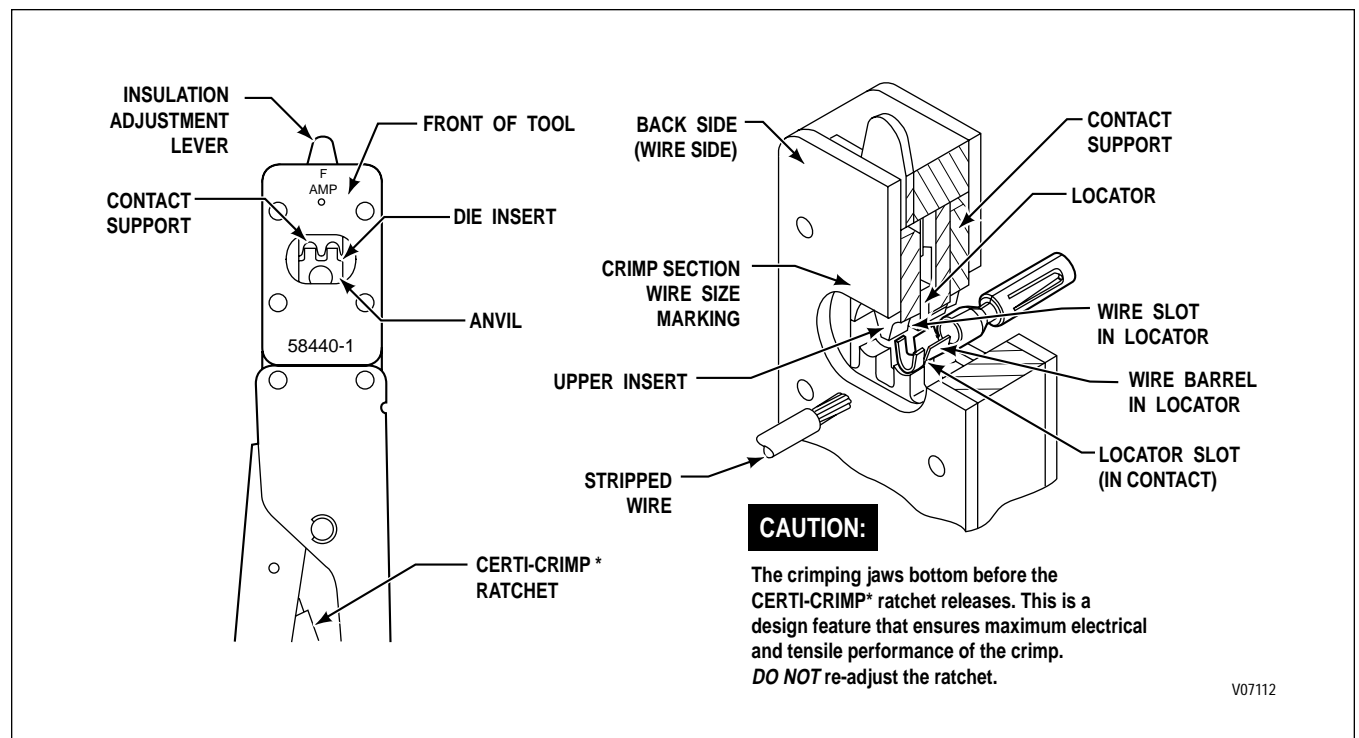

Figure E-15. Alternate AMP Crimper 58440-1
E. Terminal Crimping Using Alternate Crimper 58440-1 (Refer to Figure E-15)
E. Terminal Crimping Using Alternate Crimper 58440-1 (Refer to Figure E-15) (*cont'd*)